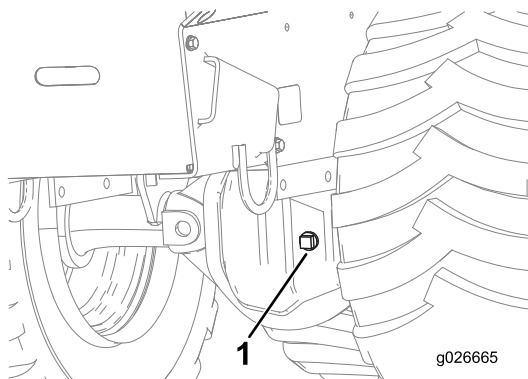

Figure 34
2. Remove the fill plug from one of the axle differentials (Figure 34).